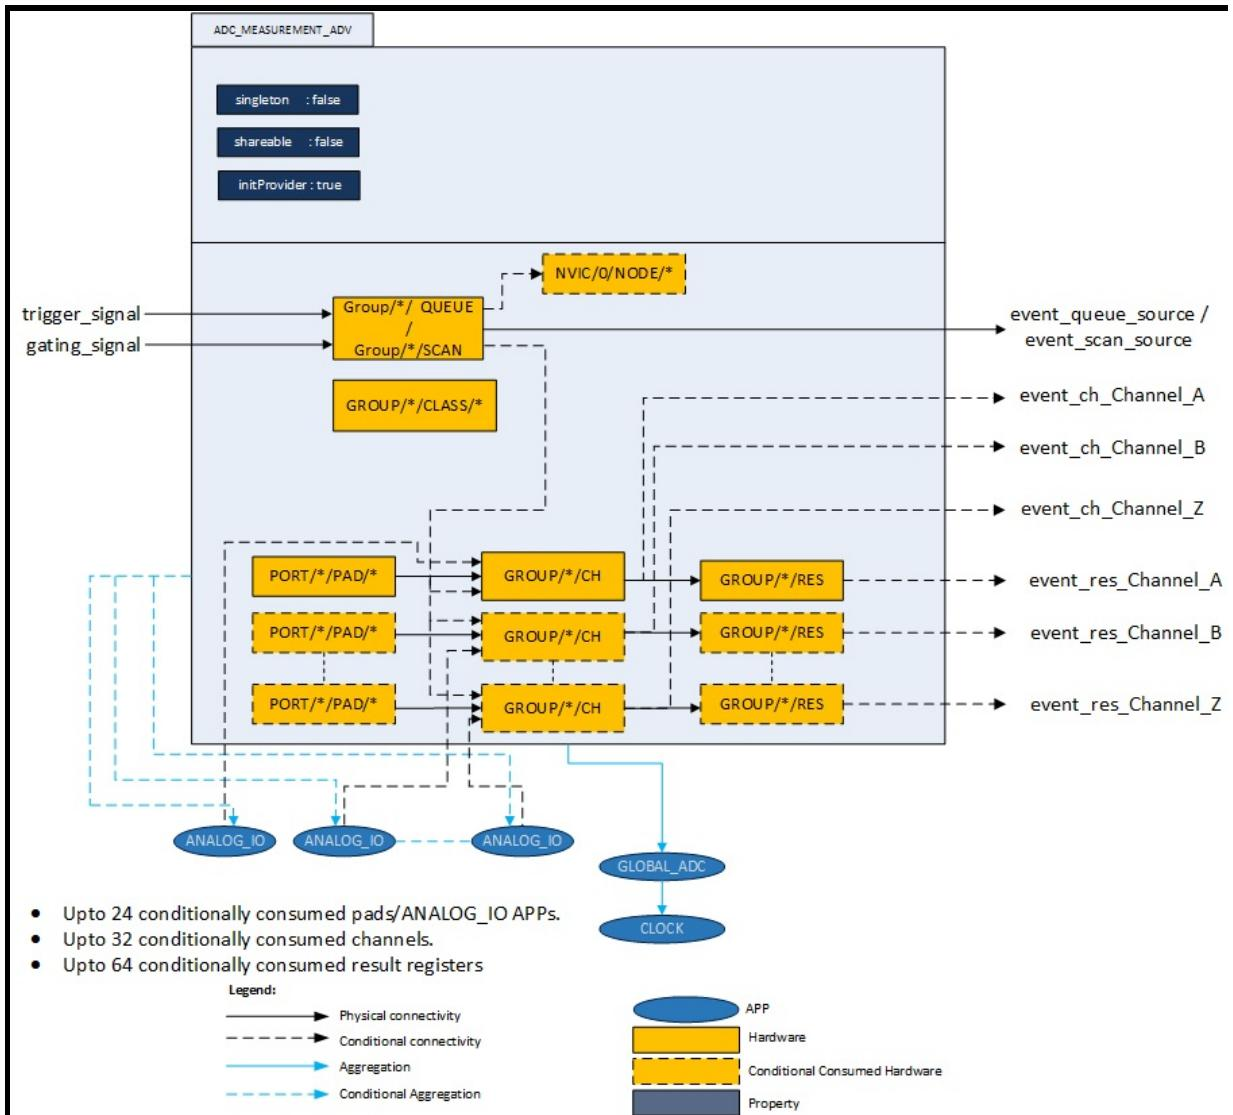

Figure 2 : Architecture of the **ADC_MEASUREMENT_ADV APP** with internally consumed request source.
- Figure 2 represents the architecture of the **ADC_MEASUREMENT_ADV** APP with expose APP option disabled in the GUI. This configuration consumes the request source inside **ADC_MEASUREMENT_ADV** itself.